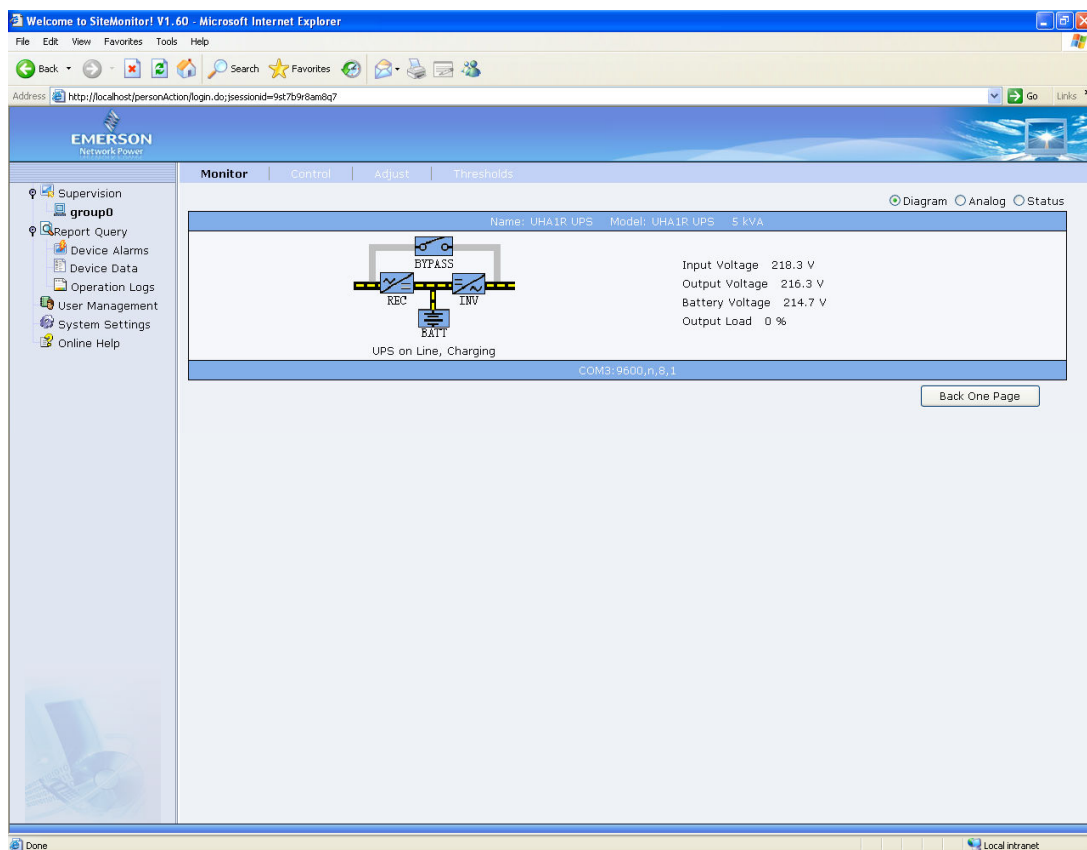

Figure 25 State interface
5. Double-click the **UHA1R UPS** icon to pop up the interface shown in Figure 25.